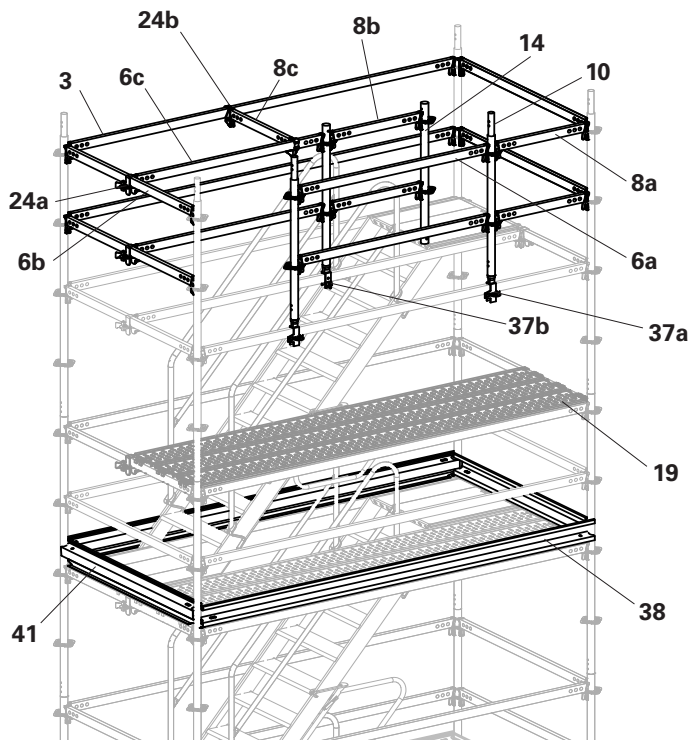

Fig. A5.03
1. Fit Toeboard Steel UPY 300 (38) and Toeboard Steel UPY 150 (41) on the completed platform.
3. Insert Standards UVR-2 100 (10) into UH Spigot-2 (37a) and connect with Horizontal Ledger UH-2 75 (8a) and Horizontal Ledger UH-2 150 (6a).
4. Attach the external Horizontal Ledgers UH-2 300 (3) and Horizontal Ledgers UH-2 150 (6b) to the Vertical Standards.
5. Attach the internal Horizontal Ledger UH-2 150 (6c) and UH-2 75 (8b), connected to the Horizontal Ledger UH-2 150 (6b) with Ledger Bracket UHA Half (24a), Top Standard UVR-2 100 (14) and UH Spigot-2 (37b).
6. Attach Horizontal Ledger UH-2 75 (8c) between the external Horizontal Ledger UH-2 300 (3) and internal Horizontal Ledger UH-2 150 (6c) with Ledger Bracket UHA Half (24b). (Fig. A5.03)